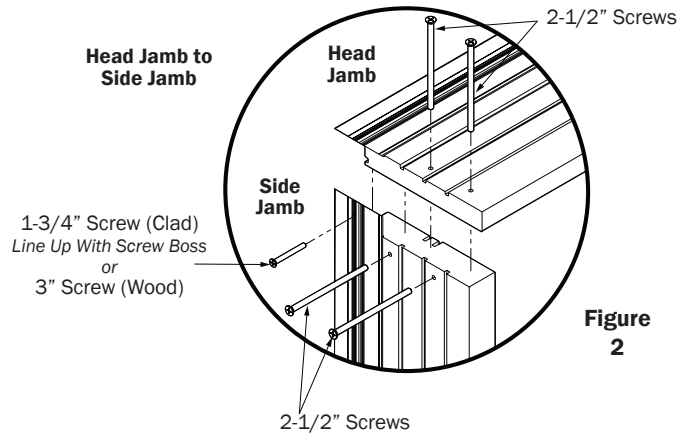

Figure 2
3. Screw the head and side jamb corners together using (4) #6 x 2-1/2" Flat Head screws, pre-drilling with 3/32" bit into wood before fastening with screws (Fig. 2). For clad units, apply (1) #6 x 1-3/4" Flat Head screw through head clad into side clad screw boss (Fig. 2). **NOTE:** Make sure screws line-up with screw bosses when assembling frame corners.